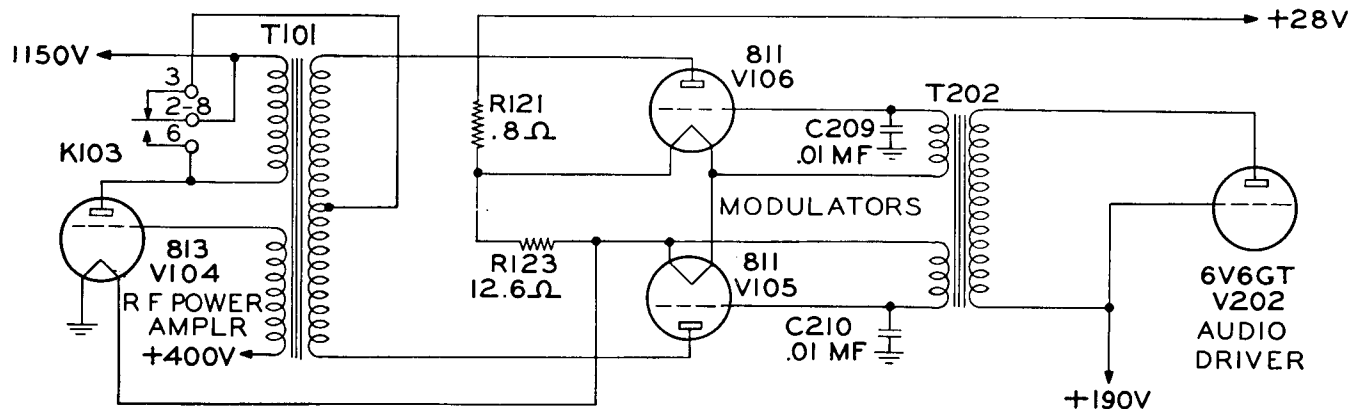

Figure 4-7. Modulator Circuit
b. MODULATOR.—The modulator (figure 4-7.) employs two Type 811 high mu triodes connected in push-pull, and operating Class B. The modulators are capable of modulating the carrier (100 watts nominal) at least 90% with full voltage applied to the power amplifier. While the 811 is essentially a zero bias tube when used with plate voltages as high as 1150 volts dc, it becomes necessary to apply some bias to the grid of the tube to keep the static plate current as low as practicable. In this application the bias is obtained